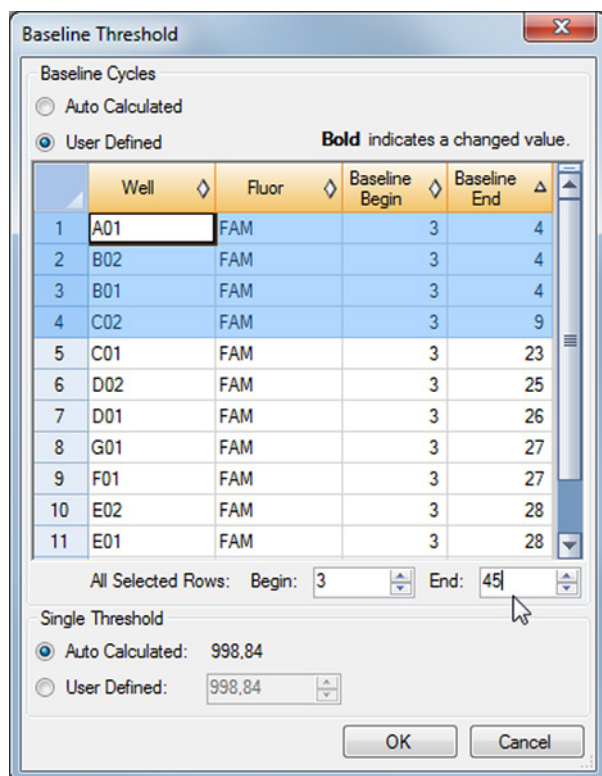

Figure 5: Baseline Threshold dialog
3. In the menu bar of the Data Analysis window click **Settings** → **Baseline Threshold...** to open the Baseline Threshold dialog (see figure 5).
5. Select all lines that show a **Baseline End** value of 1–9 (see figure 5).
6. Set the value in the **End:** field to 45 for the selected lines (see figure 5).
9. Repeat steps 3–7 for the VIC™ (IC) detection channel.